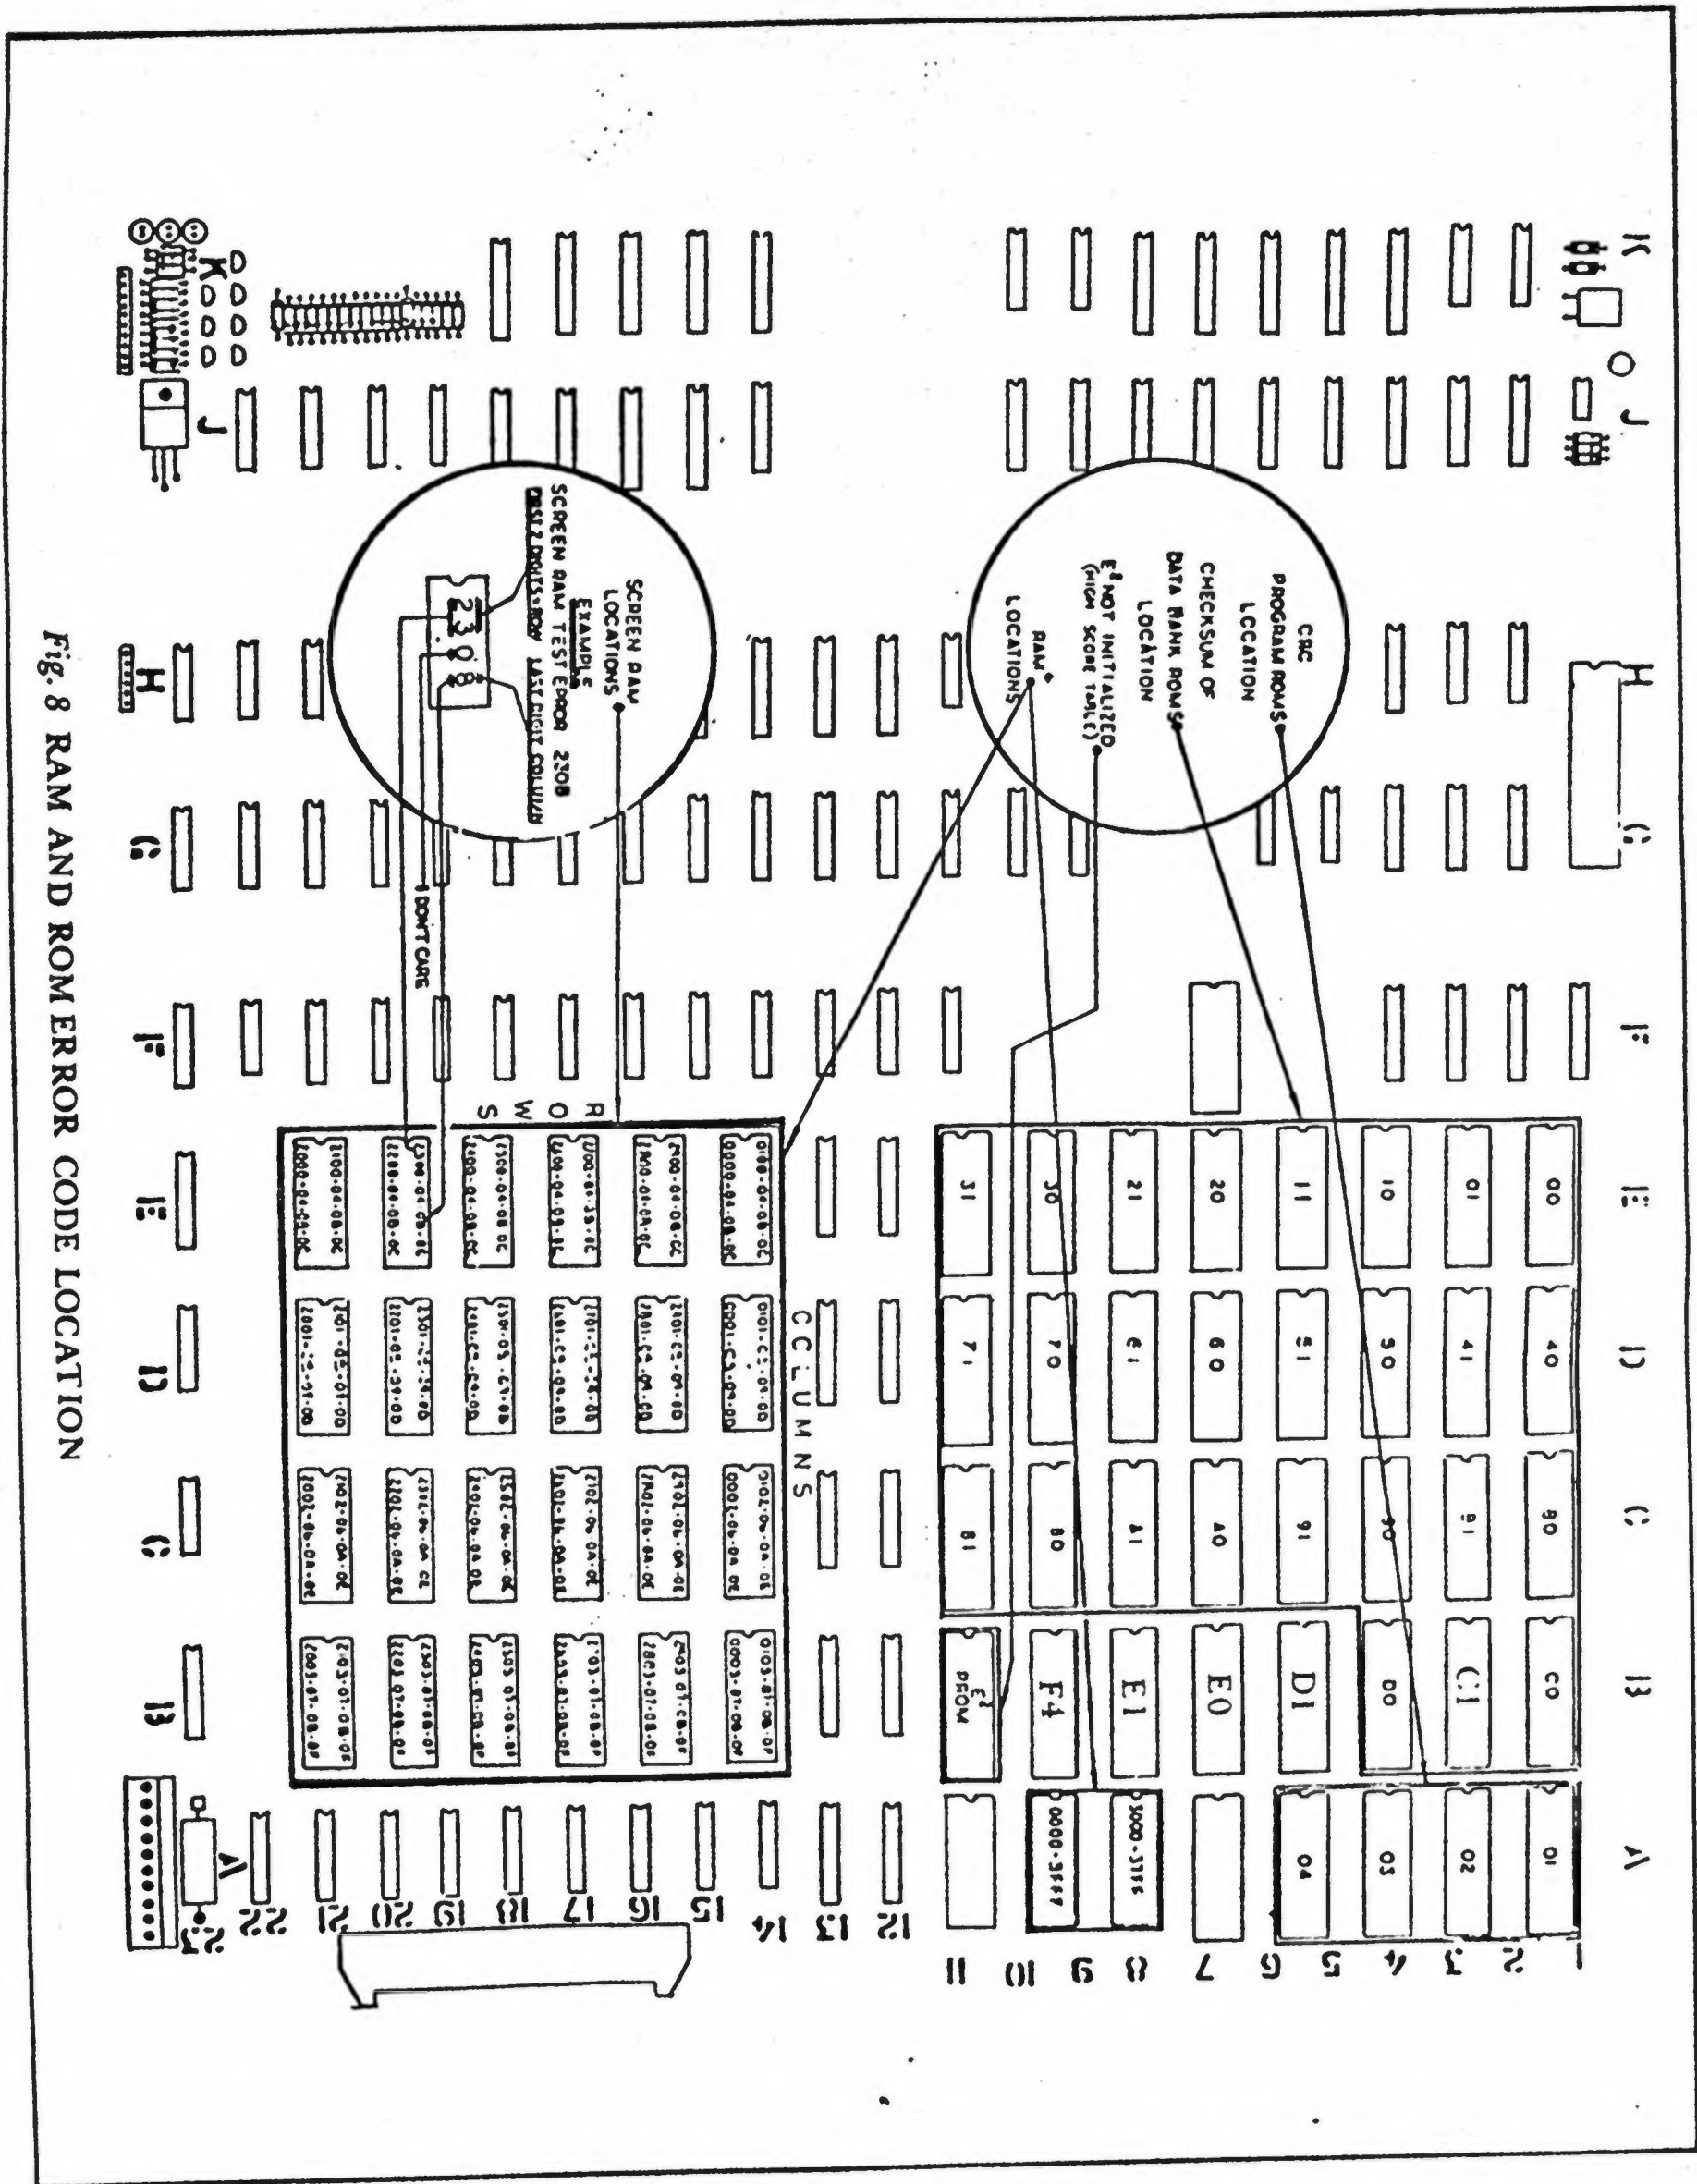

Fig. 8 RAM AND ROM ERROR CODE LOCATION
- \* See Diagnostic Error Code FIG. 8 for suspected location of RAM or ROM.